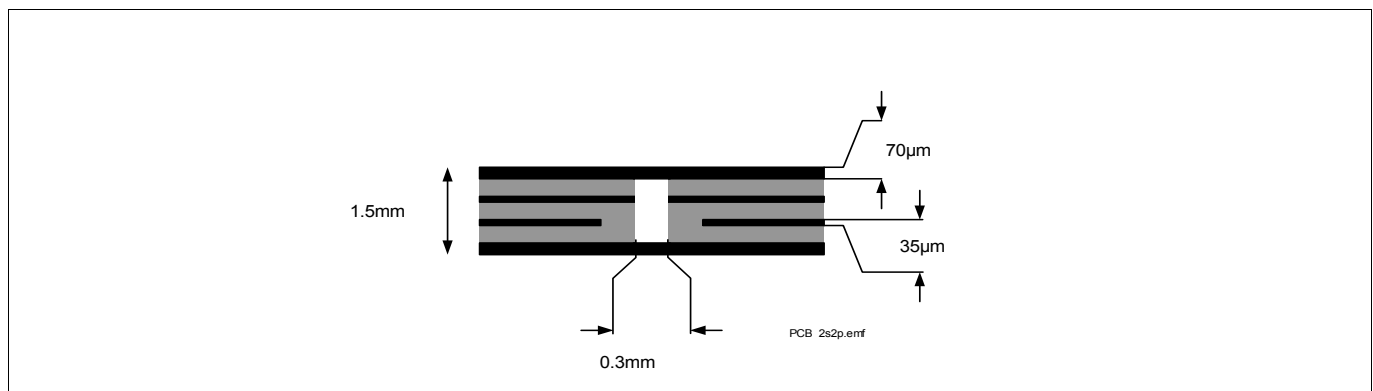

Figure 4 2s2p PCB Cross Section
2) Specified R_{thJA} value is according to JEDEC JESD51-2,-5,-7 at natural convection on FR4 2s2p board; The product (chip + package) was simulated on a 76.4 x 114.3 x 1.5 mm board with 2 inner copper layers (2 x 70 μm Cu, 2 x 35 μm Cu). Where applicable, a thermal via array under the exposed pad contacts the first inner copper layer. Please refer to Figure 4.